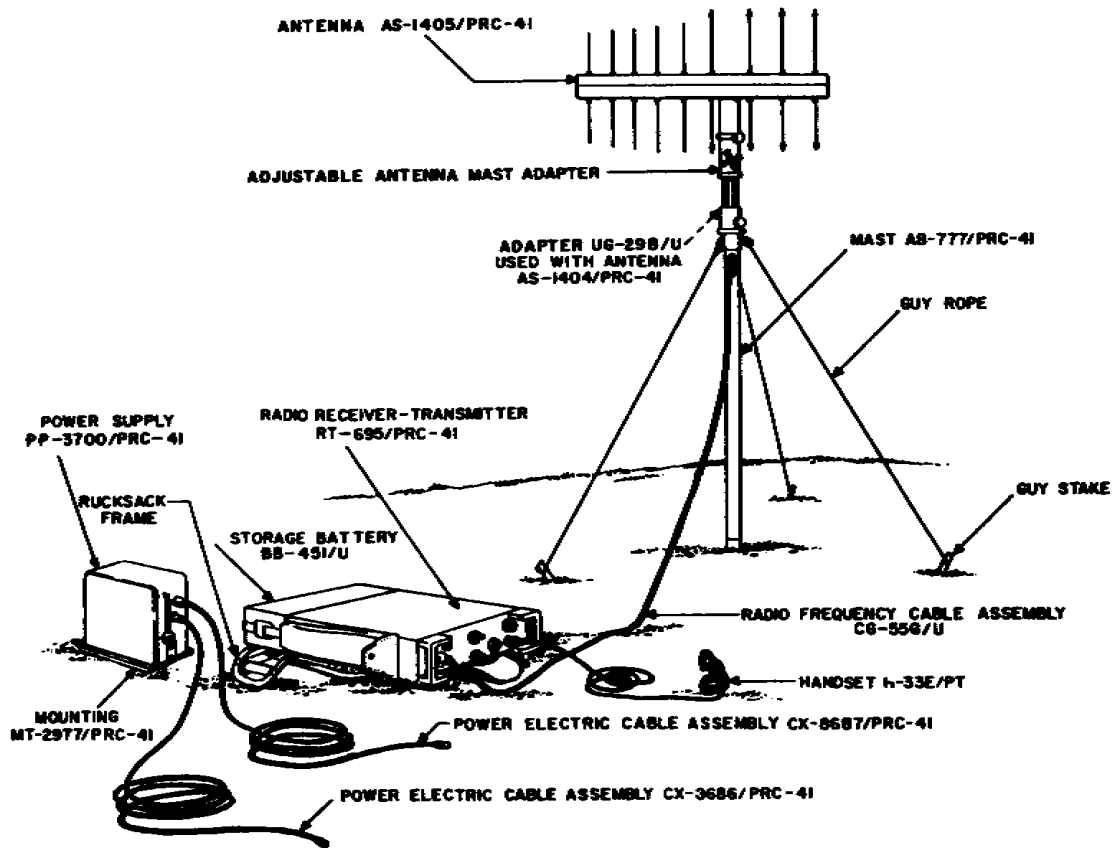

Figure 2-6. Radio Set AN/PRC-41. Fixed Station Installation
b. FIXED STATION INSTALLATION. - Refer to figure 2-6. Radio Receiver-Transmitter RT-695/PRC-41 may be supplied power by Power Supply PP-3700/PRC-41, Storage Battery BB-451/U, or by vehicular battery supply for a fixed station installation. A fixed station installation may use either Antenna AS-1404/PRC-41 or AS-1405/PRC-41 mounted on Mast AB-777/PRC-41. Radio Frequency Cable Assembly CG-55G/U must be fitted up through Mast AB-777/PRC-41 and connected to Antenna AS-1405/ PRC-41 or through Adapter